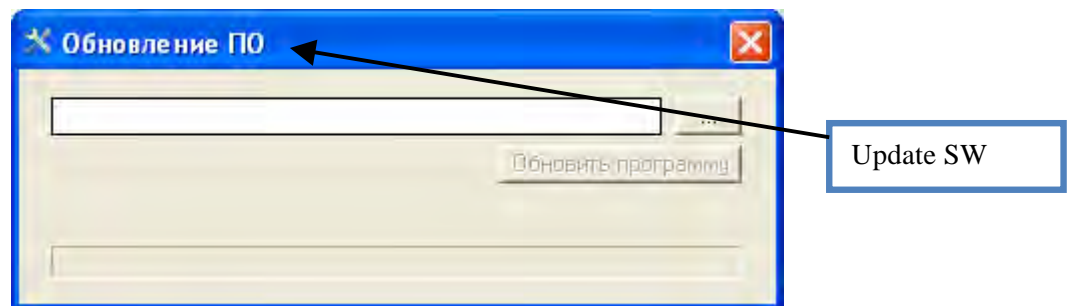

Figure 2.7
Button "**Update SW**" (7). It allows using this configurator to update device software (figure 2.7).